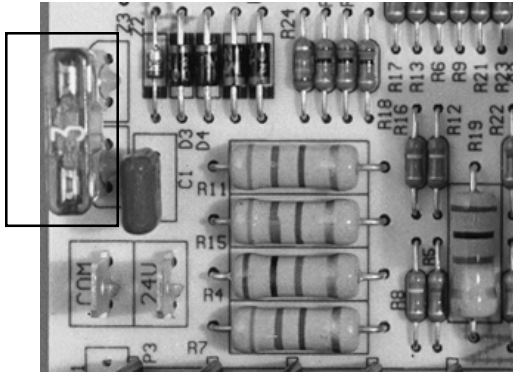

Figure 25.
- B. Low Voltage Fuse - an over-current, short circuit safety device designed to protect the control board in the event of a low voltage short or over-current. (See Figure 25.)